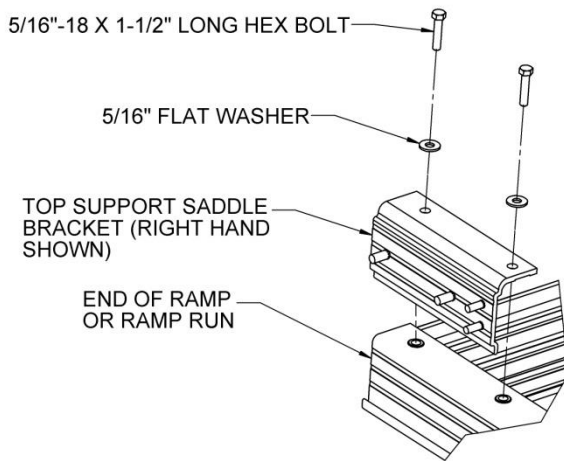

FIG. 6.13
- 6.3.1. Attach top support brackets with two each 5/16" x 1-1/2" bolts and two each 5/16" flat washers (FIG. 6.13). **NOTE:** There is a left and right top support bracket. The two 3/8" studs aligned horizontally should be oriented toward the end of the ramp.